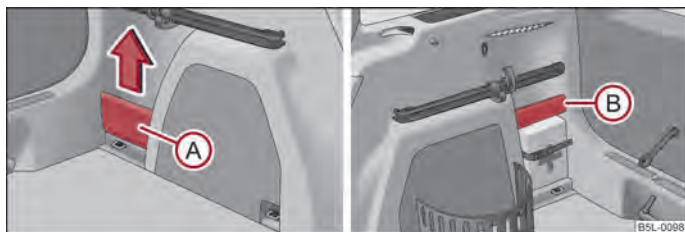

Fig. 85 Luggage compartment: Storage compartments
The removable storage compartment (A) ⇒ fig. 85 on the left side is suitable for stowing small objects weighing up to 1.5 kg.
The storage compartment (B) ⇒ fig. 85 on the right side is suitable for stowing small objects weighing up to 0.5 kg.